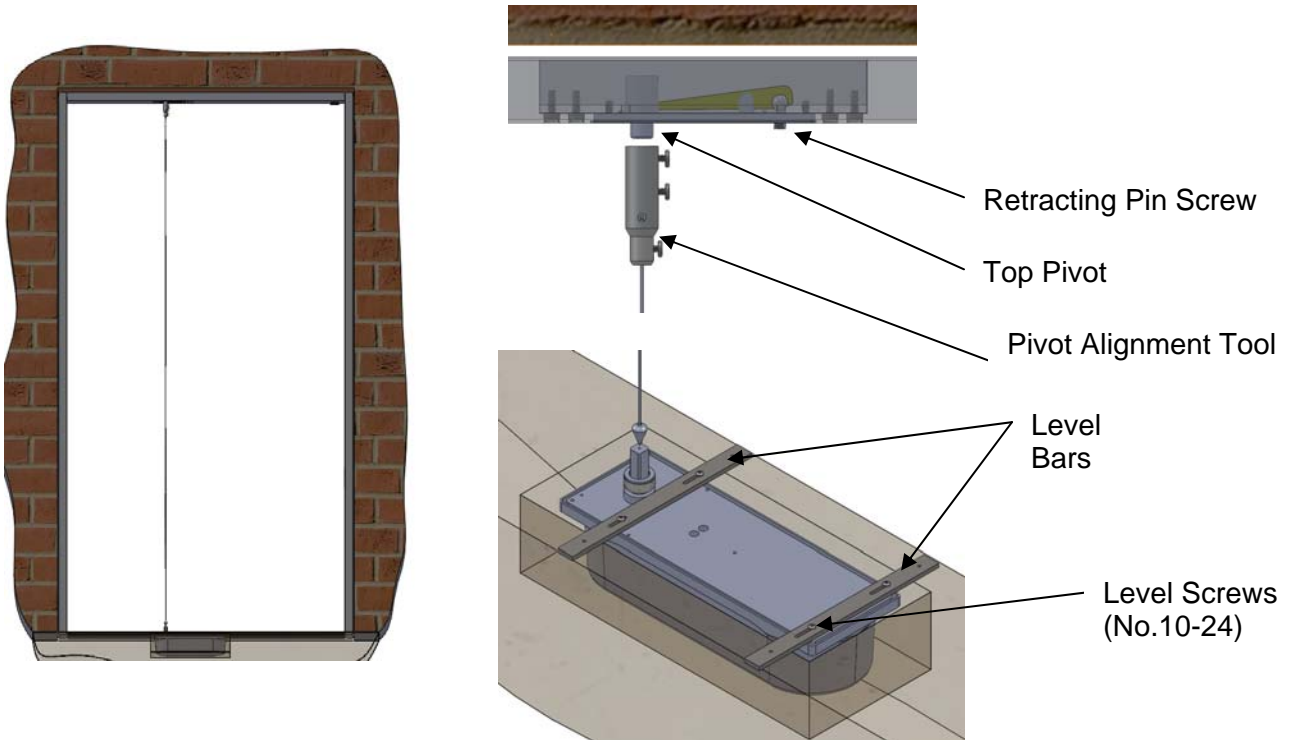
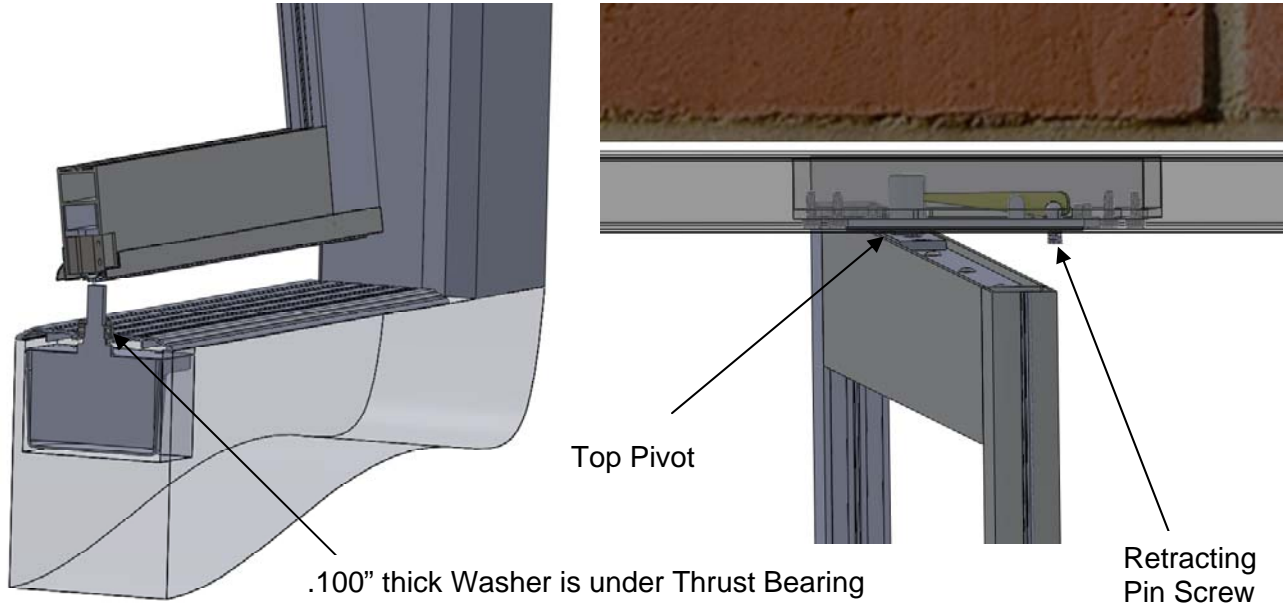

Figure 7:
Figure 8:
- Retract top pivot pin by turning retracting pin screw counterclockwise (Figure 7). Install washer & thrust bearing to spindle (Figure 8).
- Slide down door on spindle and attach arm cap but do not tighten (Figure 8).